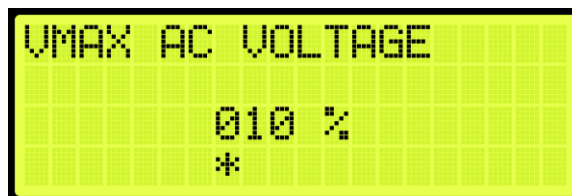

Figure 316: VMAX AC VOLTAGE Menu
5. From the VMAX AC VOLTAGE menu, set the percentage of the maximum voltage (See Figure 316).